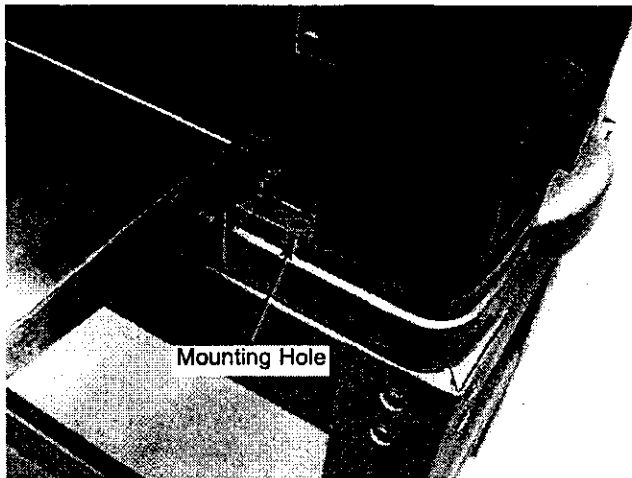

Figure 7 - Mounting Planer to Stand
Refer to Figure 7, page 5.
- Position the planer/molder on stand top as shown in Figure 7. Make sure that the four holes on the planer/molder base casting are aligned with four slots on stand top.